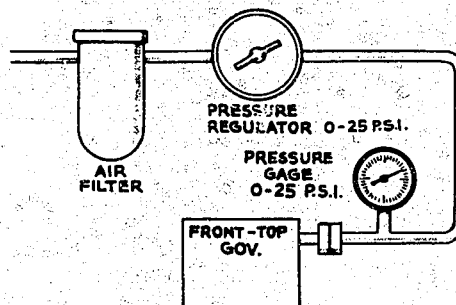

FIGURE 4
3. Air filter installed ahead of pressure regulator. (See Figure 4).